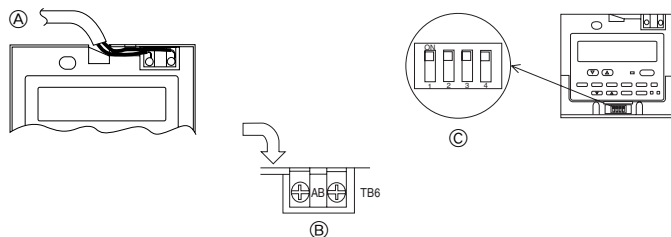

Fig. 7-4
- ① Wall
- ② Conduit
- ③ Lock nut
- ④ Bushing
- ⑤ Switch box
- ⑥ Remote controller cord
- ⑦ Seal with putty
- ⑧ Wood screw
2) Connecting procedures (Fig. 7-4)
① Connect the remote controller cord to the terminal block.
- ① To TB5 on the indoor unit
- ② TB6 (No polarity)
② Set the dip switch No.1 shown below when using two remote controller's for the same group.
- ③ Dip switches